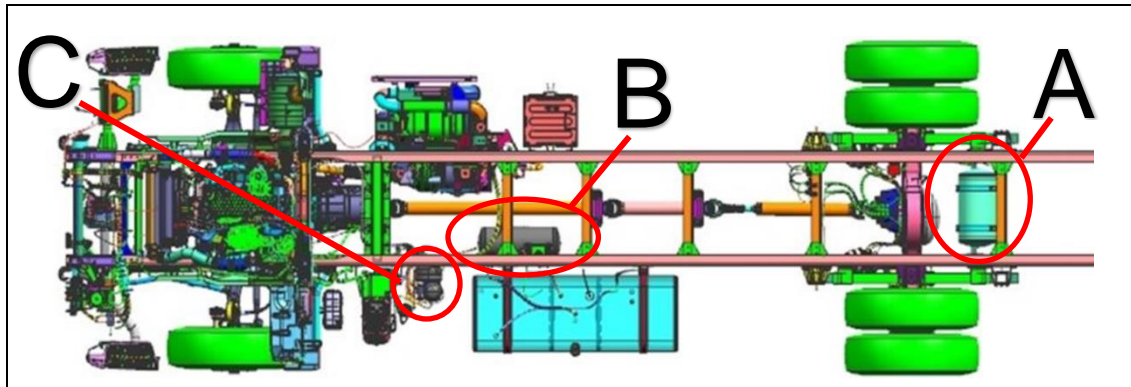

Figure 2
2. Drain air from the air brake system (see Figure 2) by pulling the lanyards, as shown in Figure 3, on the primary and secondary air reservoirs until system is completely empty.